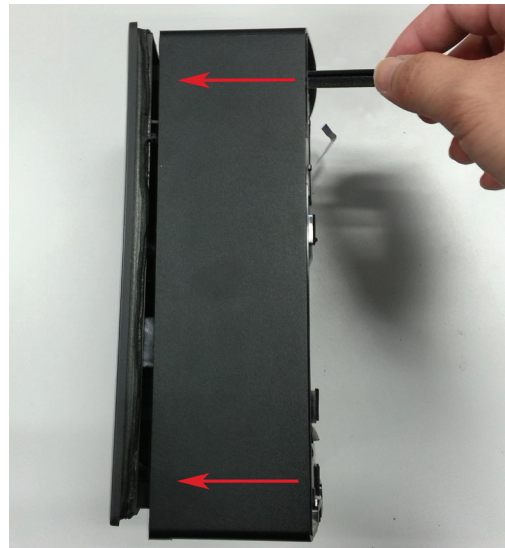

Figure 20. Rear Panel, Removal
5.3 Figure 20. Insert the spudger into the screw cavity and press forward toward the rear panel at each of the 4 corners of the cabinet. This will release the rear panel from the cabinet.